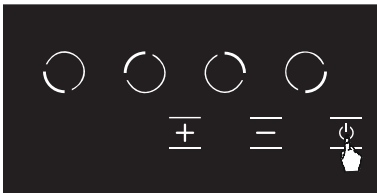

Figure 11
1. You may turn the stove off by pressing the **⏻** button. See Fig. 11)